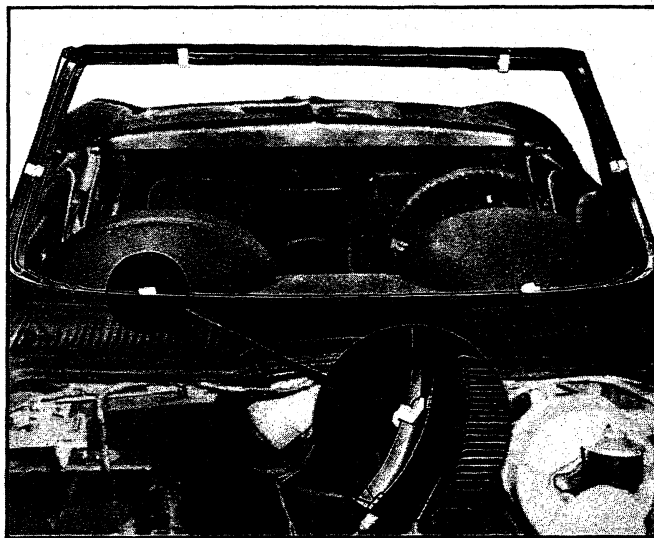

Fig. 17—Windshield Checking Blocks
1. With weatherstrip and all foreign material removed from perimeter of opening and with molding clips in place, install windshield checking blocks (Special Tool J-8942) as shown in Figure 17. Note that checking blocks must be placed over molding clips to obtain proper alignment.